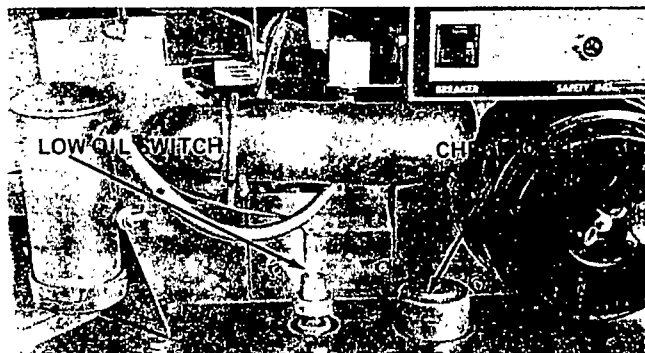

Figure 36
See figure 36 above.
A.) Check the oil level and add oil to the proper level, if necessary. Disconnect the wire from the low oil switch (figure 36). Position the wire so that the terminal connector